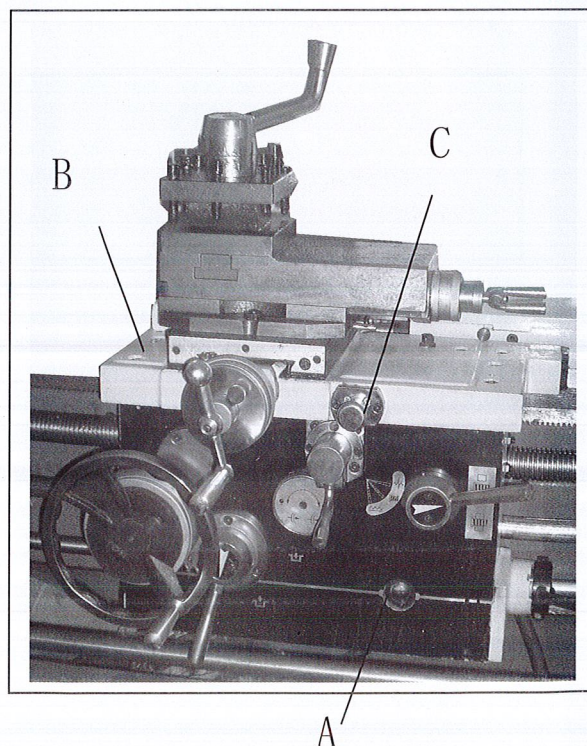

Fig.5
3. **Apron** - Oil must be between indicator marks in the oil sight glass (A, Fig. 5). Top off with Mobil DTE® Oil Heavy Medium. Remove oil plug (B, Fig. 5) on upper right of apron to fill. To drain, remove drain plug on bottom of apron. Drain oil completely and refill after the first three months of operation. Then, change oil in the apron annually. Pull knob (C, Fig. 5) on the one-shot lube system and hold for several seconds to allow oil to fill the pump. When the knob is released, oil will flow through various oil lines to lubricate the ways and cross slide surface. Perform this twice daily or as needed. When the oil level is below the indicator mark, oil must be added.